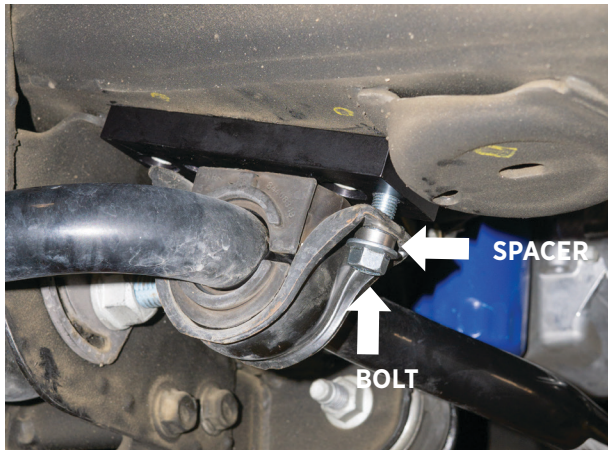

Fig. 5: Mount the rear bolt first.
6. Use the provided bolts and spacers to reinstall the sway bar. Loosely mount the sway bar bracket to the block. Mount the rear of the bracket first (Fig. 5).